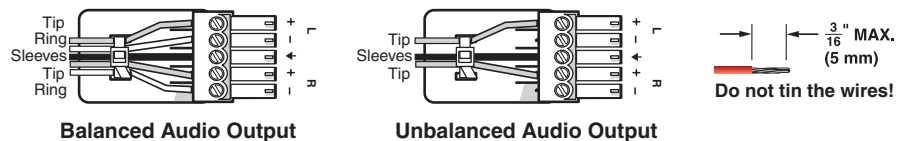

Figure 5. Audio Output Captive Screw Connector Wiring
- C Audio output connector** — Connect audio output devices using cables with balanced or unbalanced 3.5 mm, 5-pole captive screw connectors. See figure 5 below to wire the connectors.